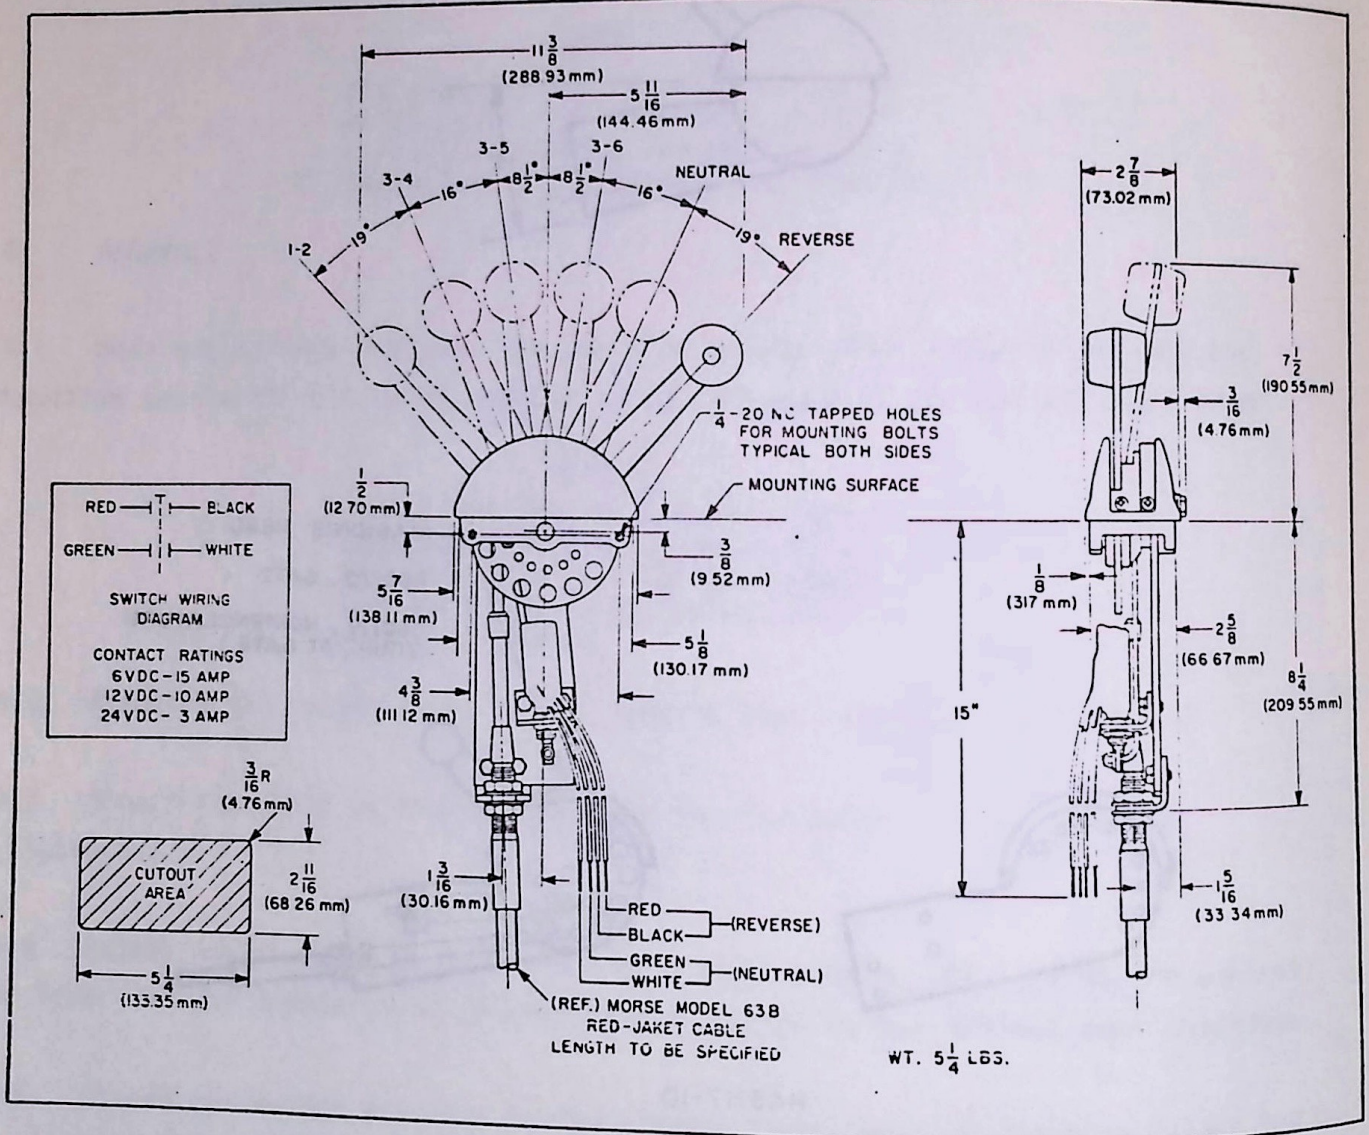

FIGURE 1-4
1.6.1 The control is designed to mount on a tower or through a console. The cutout dimension and the mounting bolt locations are given in Figure 1-4.